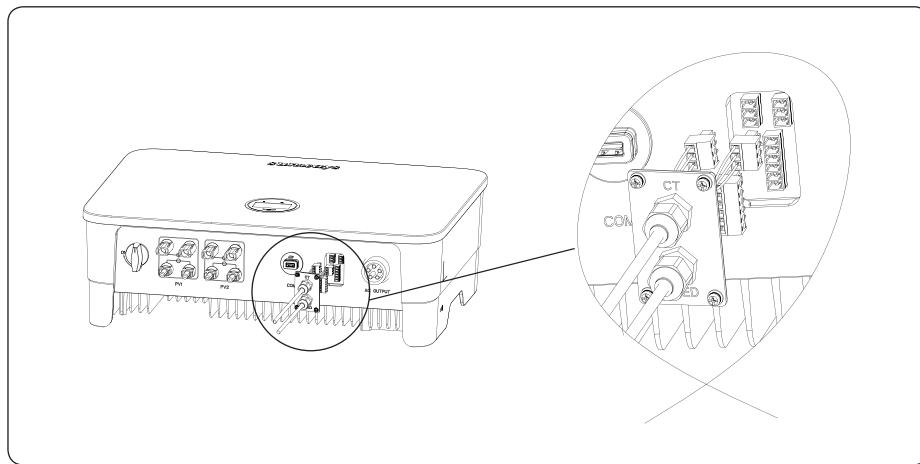

Figure 4-24
- 4) Insert the 3/6pin connector into the 3/6pin connector inside the inverter, and screw the CT/DRED plate back with a cross screwdriver, as shown in Figure 4-24: